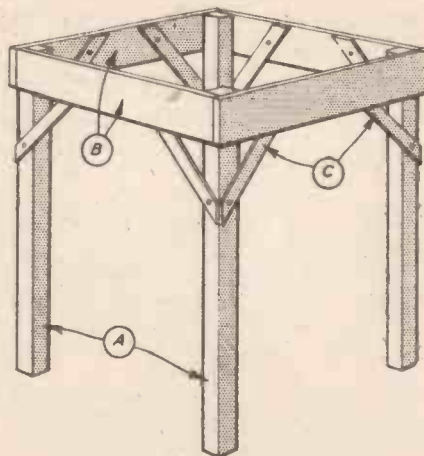

Fig. 6.—Table construction.
The beginner's effort is usually kinked, as shown in Fig. 6 at the top, due to the inadequate length of tubing being heated; between 2in. and 3in. must be in the flame. A properly bent tube is shown at the bottom of Fig. 6.
easy to make the framework as shown in Fig. 6 for the purpose. The uprights (A) are about 2ft. 6in. long with a section of 2in. x 1½in. Four side pieces (B) are 2ft. 3in. x 3½in. x ½in., while the eight strengtheners (C) are strips of three-ply cut to lie as indicated.